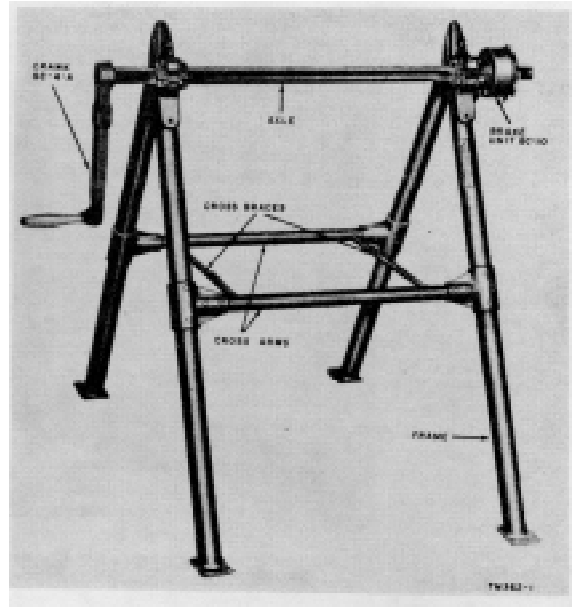
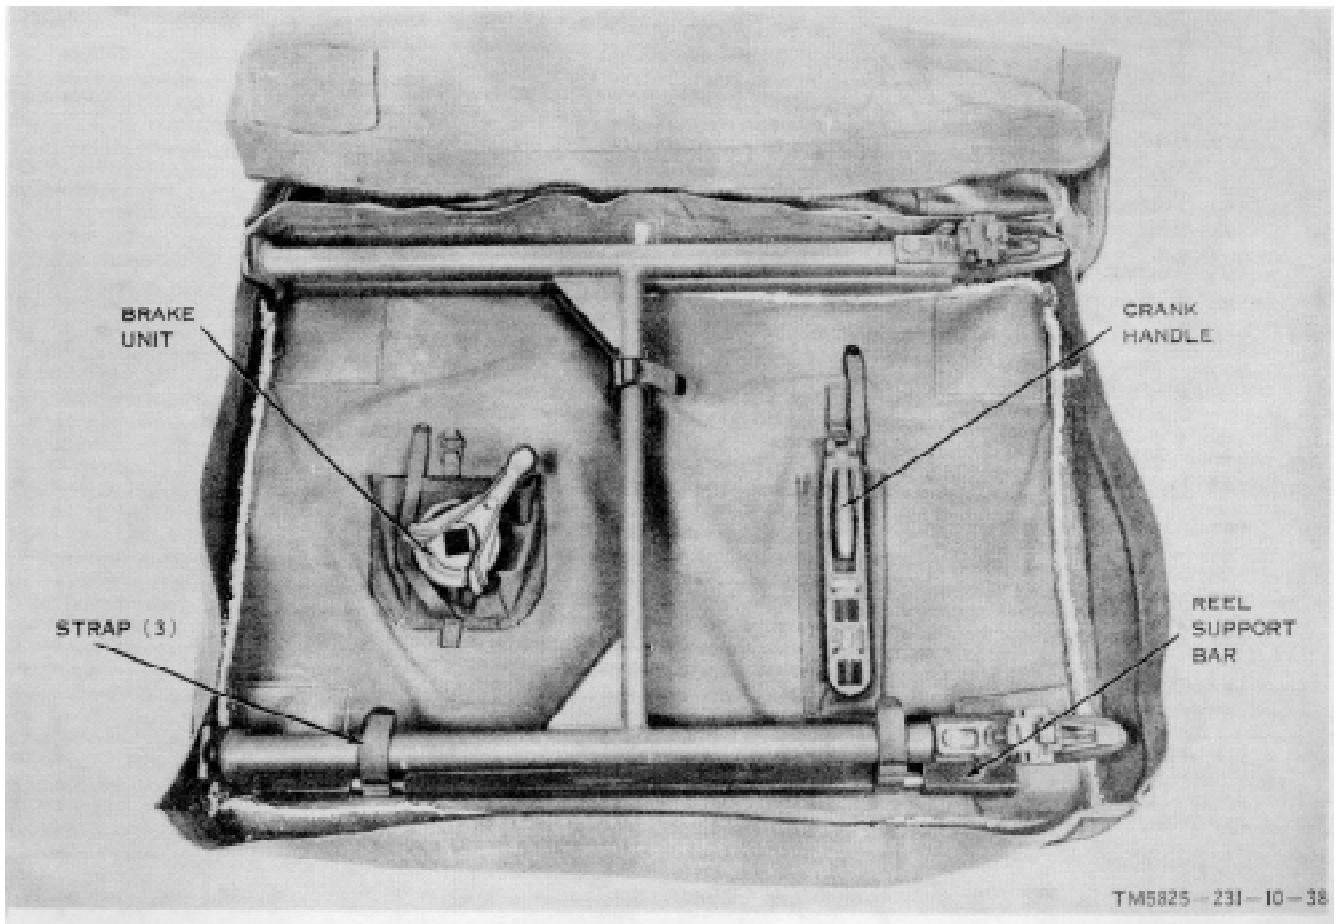

Figure 1-26. Cable reeling machine (leas reel).
Figure 1-27. Cable reeling machine in storage bag.
d. *Cable Reeling Machine RL-IE.* A cable reeling machine (fig. 1-26) and a storage bag (fig. 1-27) are supplied with the AN/TRD-23(\*).